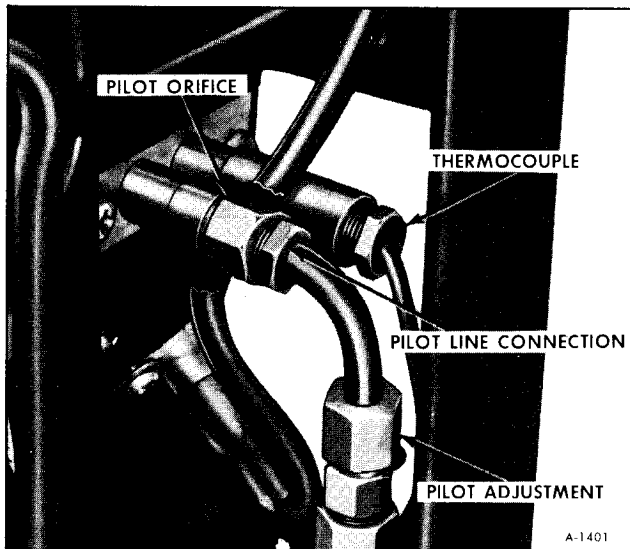

Figure 35-Pilot Orifice
2. Disconnect pilot line at pilot orifice (See figure 35).
3. Remove the pilot orifice (figure 35).
2. Connect the pilot gas line, at pilot orifice (See figure 35).